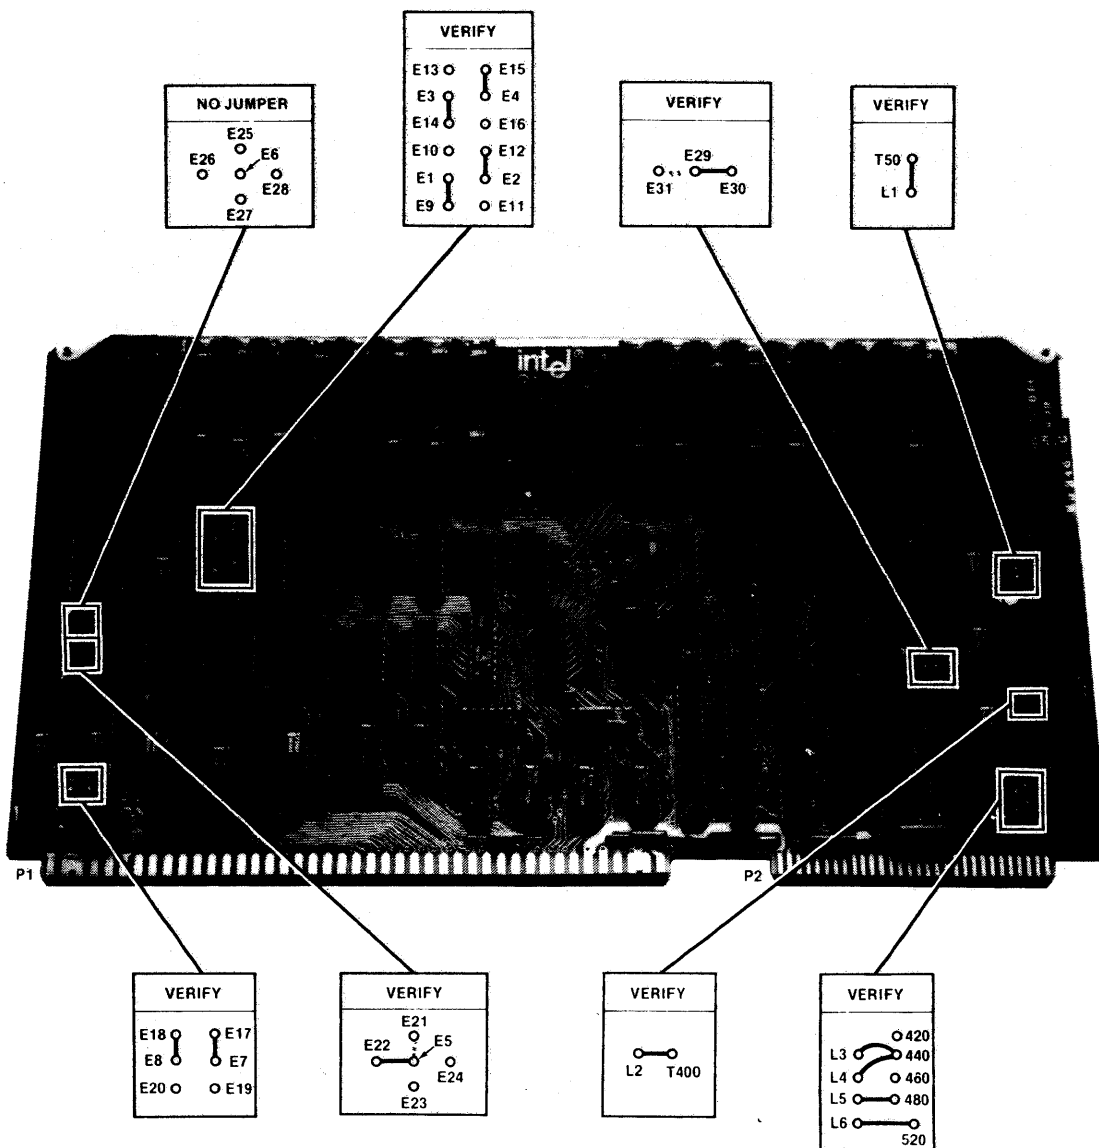

Figure 2-8. iSBC 064™ 64k RAM Board Configuration (Standard)
- k. Remove 64k RAM board from shipping carton. Refer to figure 2-8 and verify the following plug-on jumper configuration: